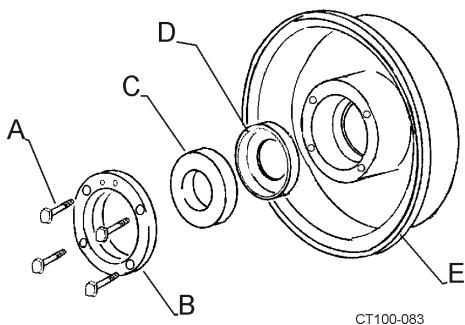

Figure 28 - Removing Stationary Seal
10. Remove four 1/4" hex bolts and stationary seat retainer ring. (See Figure 28, items A and B).
11. Pull the stationary seal and L-gasket out of the backplate. (See Figure 28, items C and D).